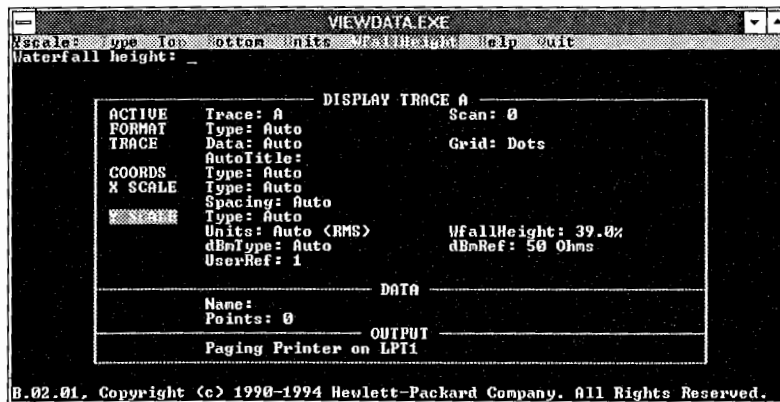

Fig. 8F Yscale Waterfall height correction screen
Step 14. Choose option "WfallHeight" from the menu bar to produce the screen of Fig. 8F.